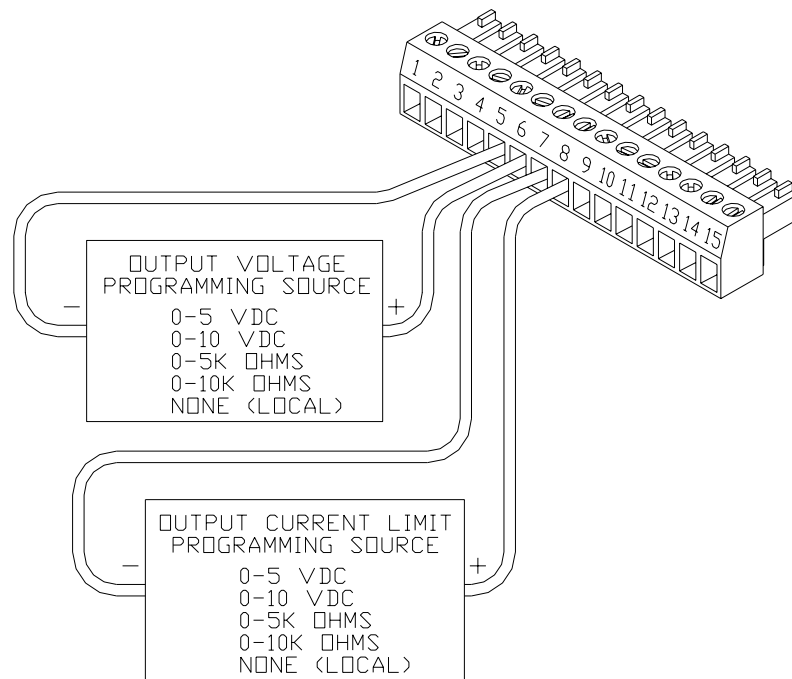

Figure 4.1 Connecting Programming Sources to J2 Connector
4. Connect the programming source(s) to the mating J2 connector as shown in Figure 4.1, observing the correct polarity for voltage sources. Ensure that the mating connector is plugged securely into the rear panel connector.